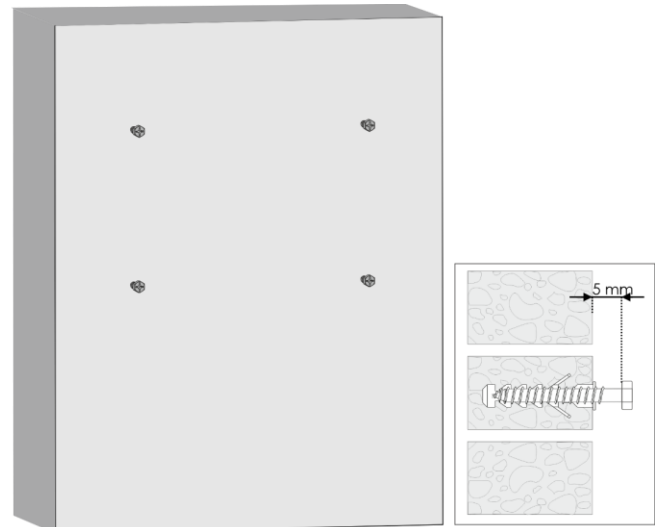

Fig. 21
- 06) Make sure that the screws show 5 mm from the wall, as shown in Fig. 21.